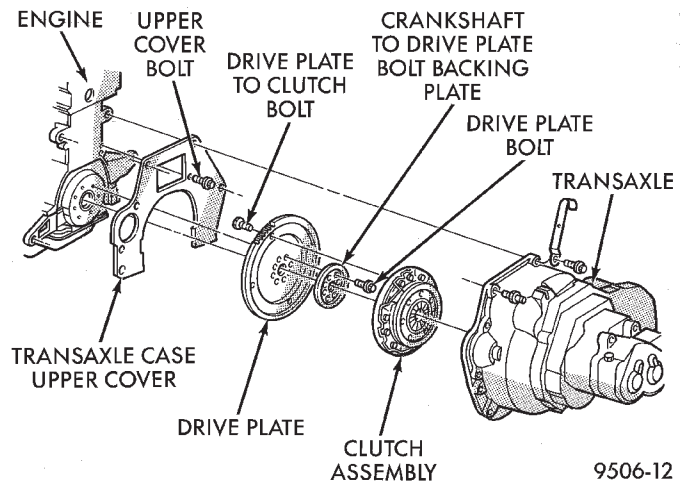

Fig. 7 Clutch Components
(1) Remove the starter wiring. Remove the starter assembly.
(2) Remove the rear transaxle support bracket.
(3) Remove the front transaxle support bracket.
(4) Remove modular clutch retaining bolts.
(5) Remove transaxle. See Group 21, Manual Transaxle, for procedure.
(6) The transaxle and modular clutch come out as an assembly.
(7) Remove the modular clutch assembly from the transaxle input shaft (Fig. 7). Handle carefully to avoid contaminating the friction surfaces.